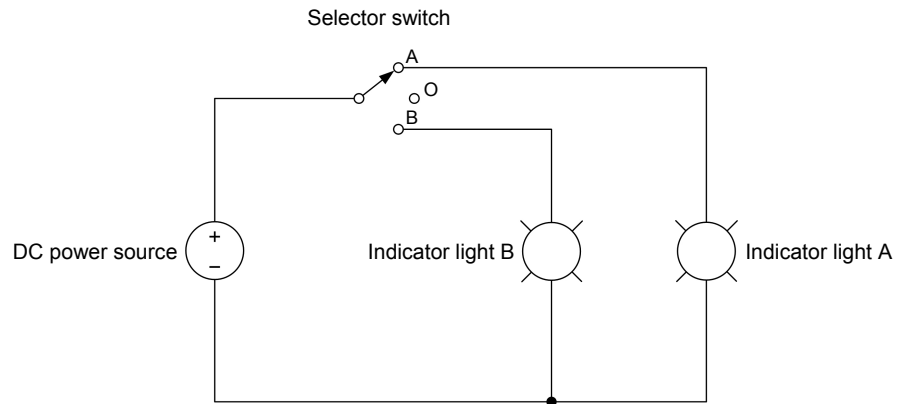
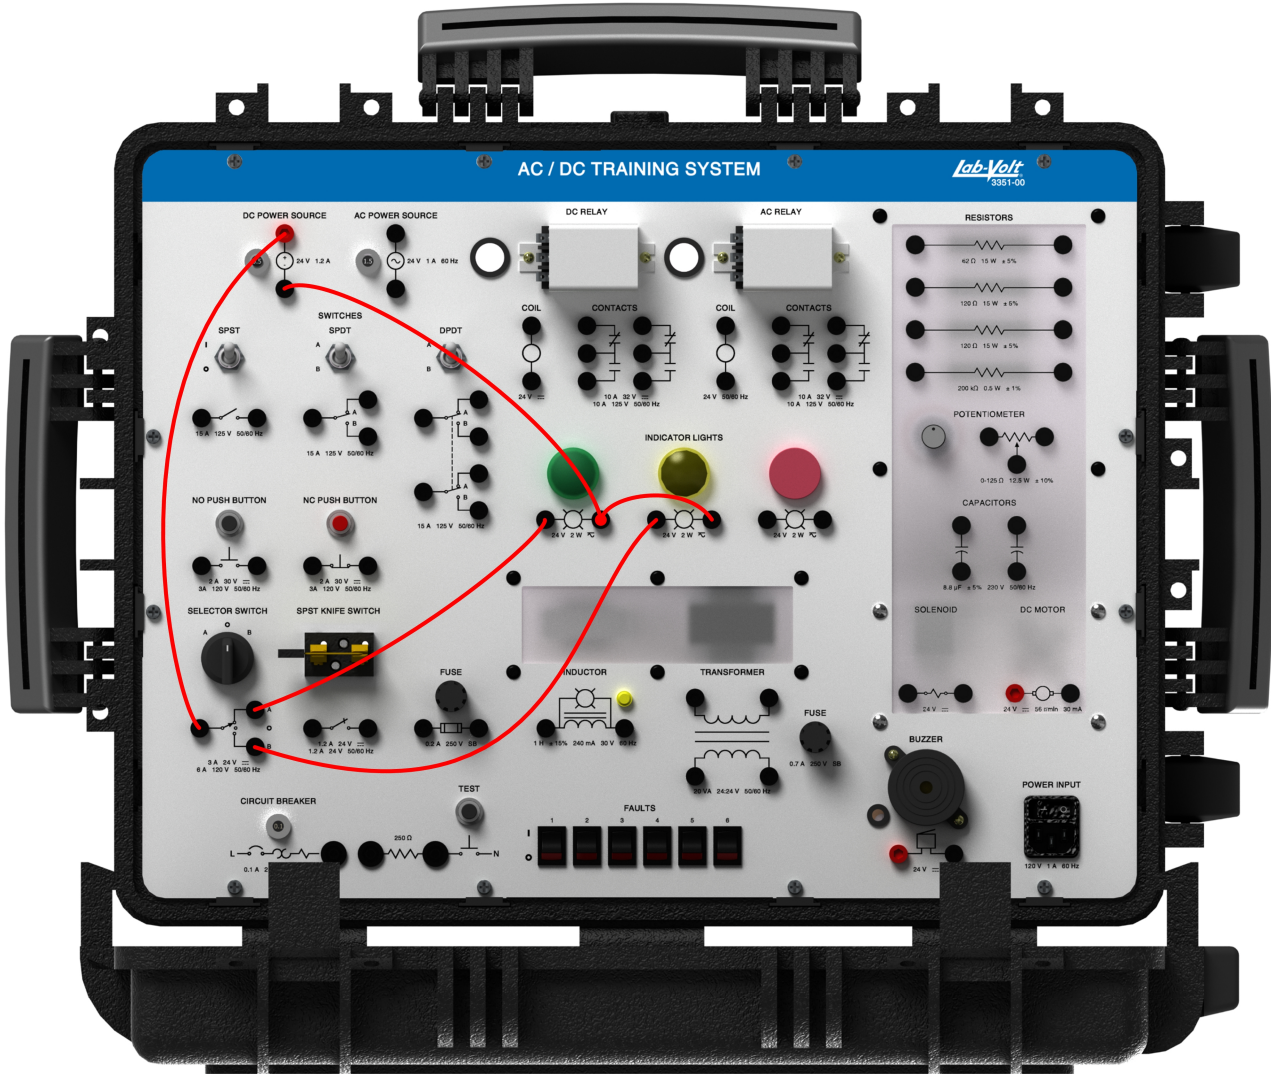

Figure 37. DC power source connected to two indicator lights and a selector switch (circuit diagram).
Figure 38. DC power source connected to two indicator lights and a selector switch (wiring diagram).
30. Connect the circuit shown in Figure 37. In this circuit, the SPDT switch is replaced by a selector switch. When you connect the selector switch, make sure that it is in the O position. Figure 38 shows the corresponding wiring diagram.